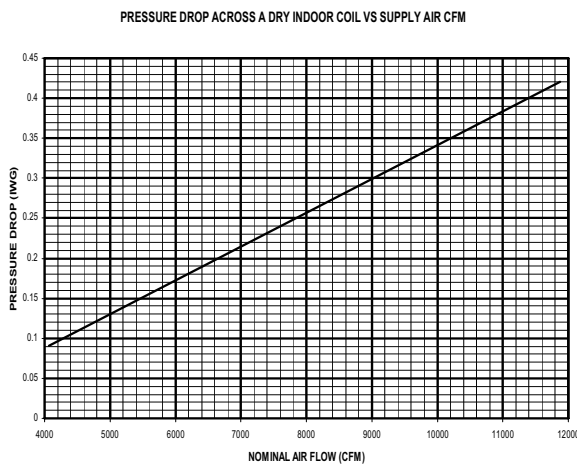

FIGURE 22 - PRESSURE DROP ACROSS A DRY INDOOR COIL VS SUPPLY AIR CFM FOR ALL UNIT TONNAGES
4. Knowing the pressure drop across a dry coil, the actual CFM through the unit can be determined from the curve in Pressure Drop vs. Supply Air CFM Figure 22.